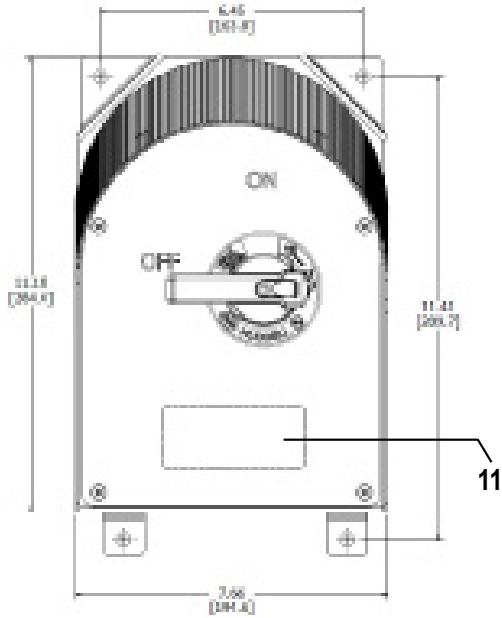

Fig. M-2
- Drill or punch at the desired conduit entrance location(s): (drill spots shown in Fig. M-2)